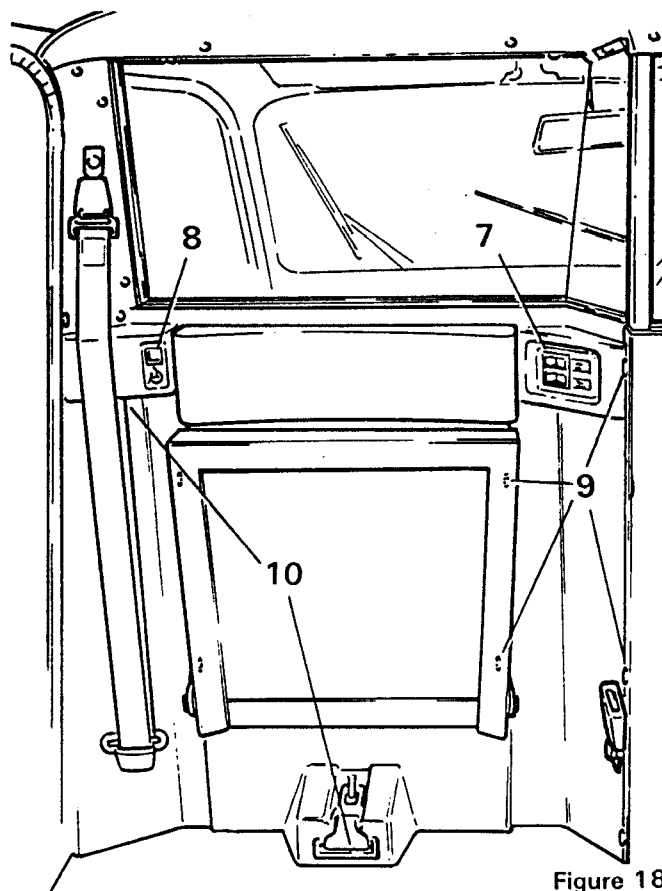

Figure 18
7. Prise out the heater control switches and disconnect the wiring from both switches. See figure 18.